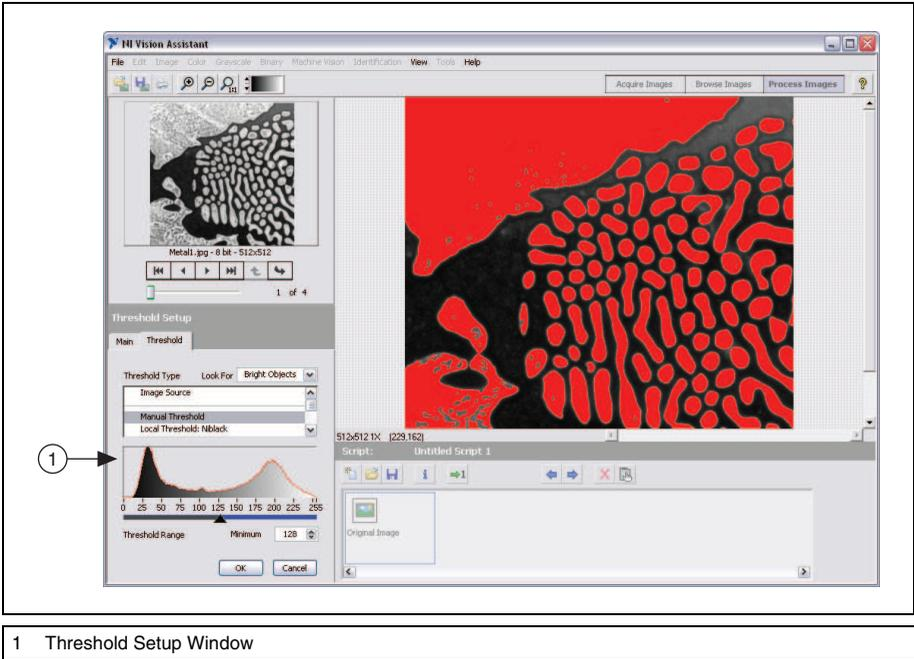

Figure 2-3. Thresholding an Image
- **Processing Functions Window/Setup Window**—Displays a list of image processing functions you can use to develop an algorithm, or displays parameters that you can set for an image processing function. Each function available through the Processing Functions window has a Setup window in which you set the parameters for that function. Refer to Figure 2-3, *Thresholding an Image*, to view an example of the Setup window for the Threshold function.
9. Click **Threshold** in the **Grayscale** tab of the Processing Functions, or select **Grayscale» Threshold**. The Threshold Setup window opens in the lower left corner of the Vision Assistant window, as shown in Figure 2-3.